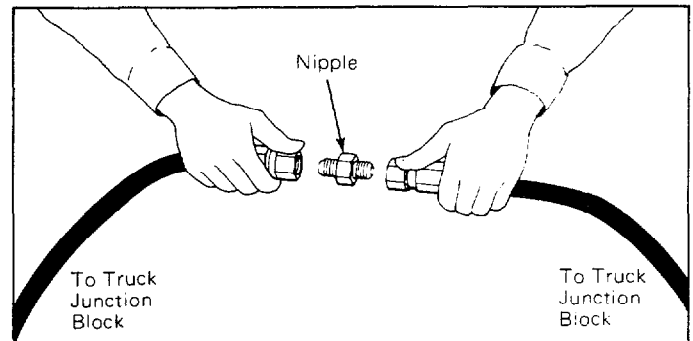

Figure 3. Connect the Two Hoses Together Using a Nipple
- a. Connect the open and close hoses together and the sideshift right and sideshift left together using a nipple as shown in Figure 3.